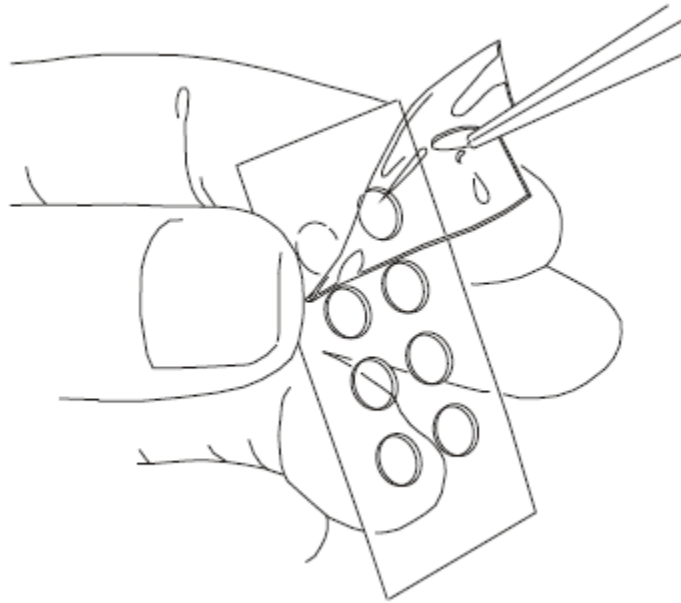

Figure 10
11. To mount coverslips on glass microscope slides, first remove the silicone gasket by peeling it off as shown in Figure 10.